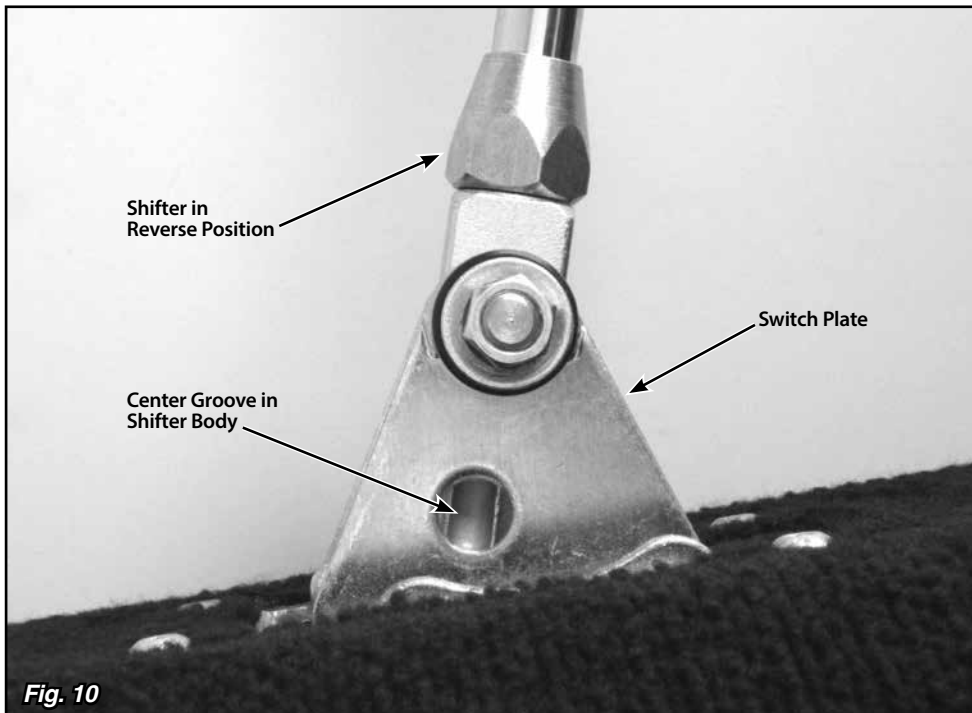

Fig. 10
**Step 16:** Put the shifter into the Reverse position. Reposition the switch plate so that the hole in the switch plate lines up with the center groove in the shifter body. **Fig. 10** Screw the provided aluminum adjuster plug into the neutral safety switch opening. Wiggling the switch plate slightly forward and back while you are screwing the aluminum adjuster plug in will help get the shifter body centered on the adjuster plug. **Fig. 11**